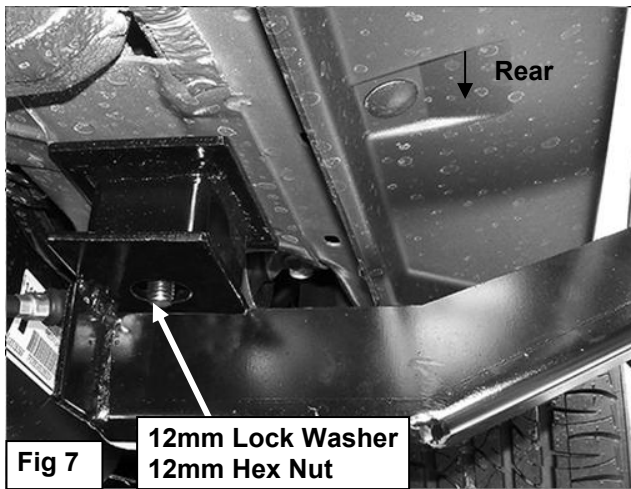

Fig 7
6. Attach the driver side rear Mounting Bracket to the 12mm x 30mm Bolt Plate with (1) 12mm Lock Washer and (1) 12mm Hex Nut, **(Figure 7)**. **NOTE:** A deep socket is required to tighten the Hex Nut up into the Bracket. Snug but do not fully tighten hardware at this time.